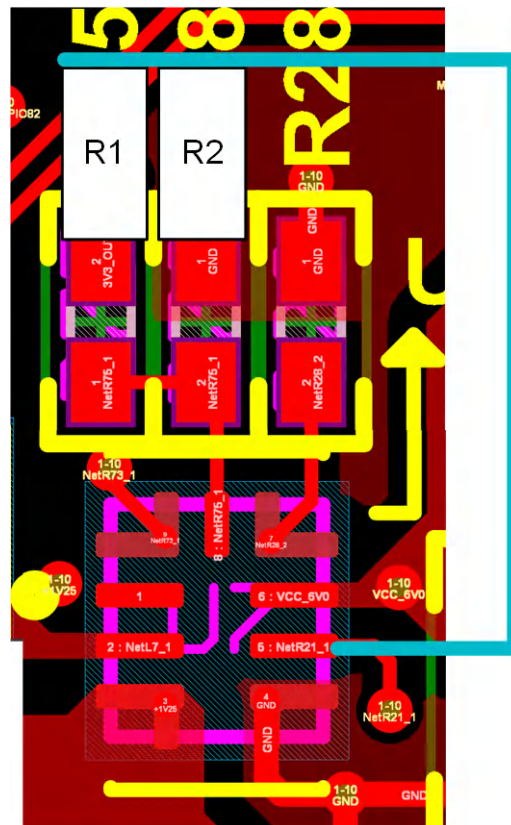

Figure 5-2. Hardware Modification for Power-Up Advisory
- Add blue wire between R1, R2, and U7.5 as shown in Figure 5-2.